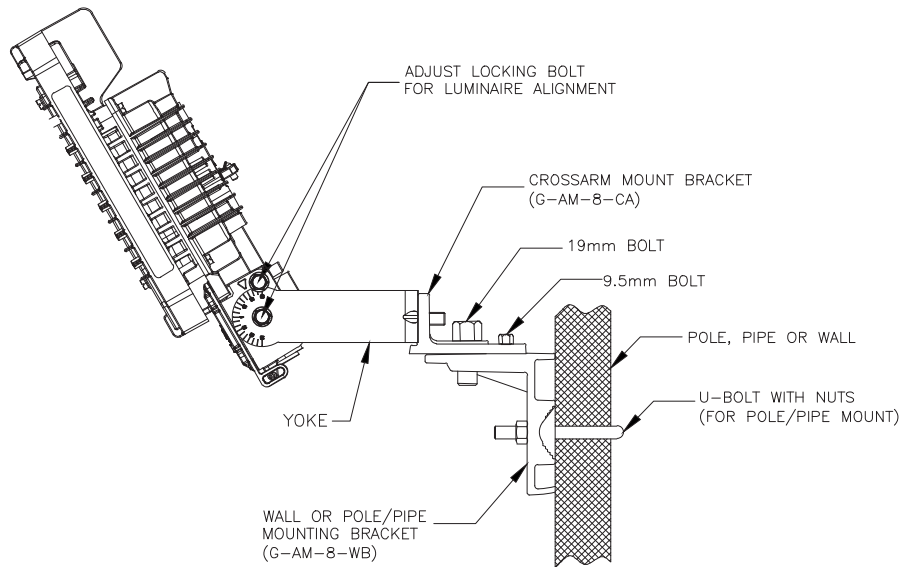

Figure 7: Luminaire with Crossarm Mounting Bracket (P/N: G-AM-8-CA) and Pipe/Wall Mount Bracket (P/N: G-AM-8-WB)
5. Mount the luminaire with yoke and crossarm mounting bracket (attached) to the pipe/wall mount bracket with one 3/4 inch (19 mm) bolt (supplied). See Figure 7.
6. Install one 3/8 inch (9.5 mm) bolt (supplied) through the crossarm mounting bracket and into the pipe/wall mount bracket. See Figure 7.